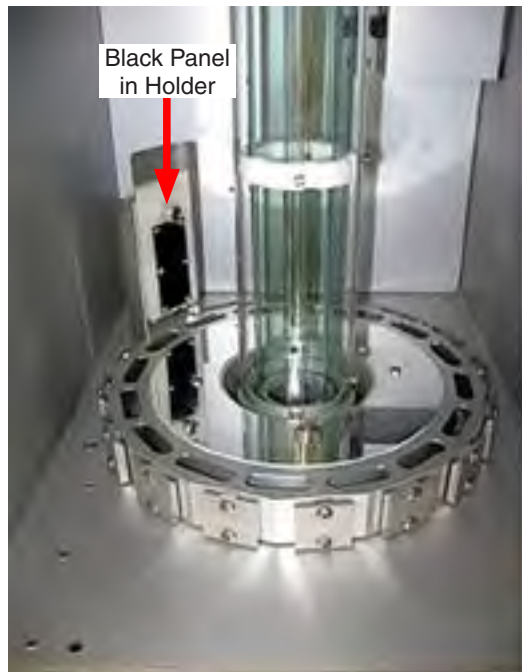

Figure 8.1b: Black panel mounted on turntable (specimen holders removed).
- The panel temperature sensor mounts on the turntable (Figure 8.1b) using a special holder (see Section 12.3).